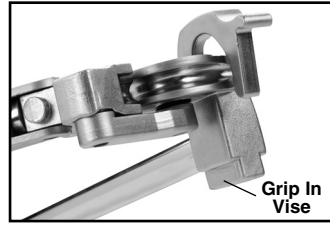

Figure 2 – Vise Mounting Point
1. Grasp bender by the Form Handle or mount the bender in vise. (Figure 2).